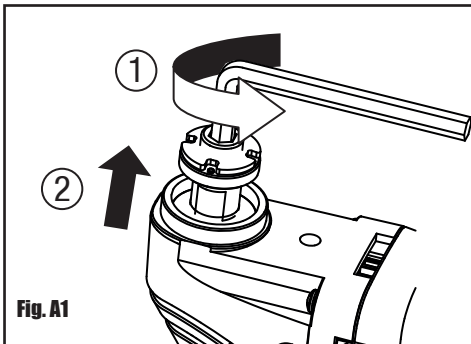

Fig. A1
1. MOUNTING THE ACCESSORIES (SEE FIG. A1-A6)
- 1) Use the supplied hex key to loosen the locking bolt by turning it counter-clockwise. (See Fig. A1)
Follow the steps of mounting the end cut blade as shown in Fig. A1- A5.